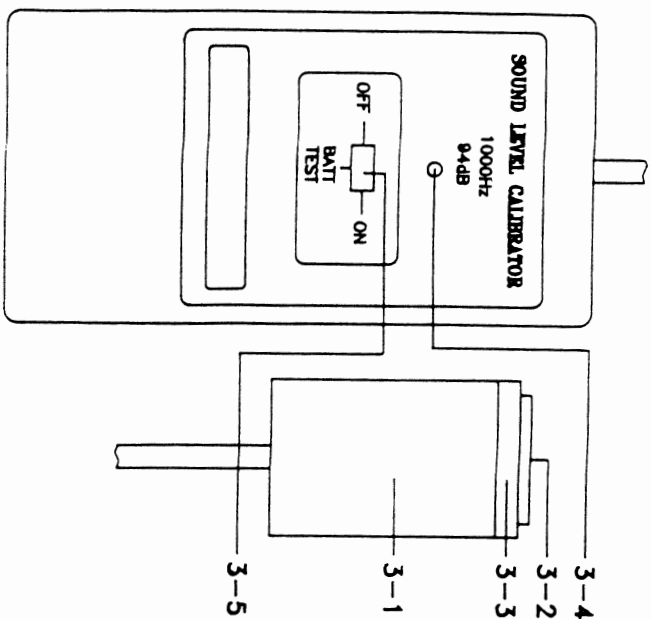
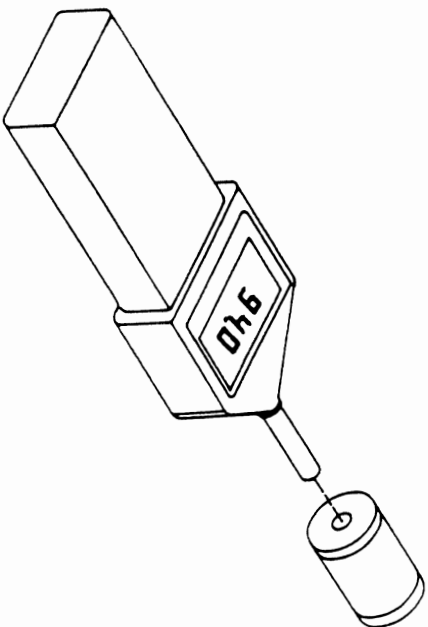

Fig. 1
Fig. 2
- (1) Slide the "OFF/BATT TEST/ON Switch"(3-5, Fig. 1) to the "BATT TEST" position.
- (2) If the "Battery Indicator"(3-4, Fig. 1) lights up, then the battery voltage is normal.
- (3) If the "Battery Indicator" does not light up, then should replace the batteries.
- (1) If the calibrated "SOUND LEVEL METER" used the 0.5" microphone, then on the "Couple Section" (3-2, Fig. 1) should install the "0.5" Mic. Adapter" first.
- (2) Insert the microphone of calibrated "SOUND LEVEL" carefully all the way into the coupler section of the SC-940. (Refer to fig. 2)
- (3) Set the calibrated "SOUND LEVEL METER" to a range suitable for measuring "94 dB"
- (4) Set the "OFF/BATT TEST/ON Switch" (3-5, Fig. 1) to "ON" position.
- (4) Adjust the calibration VR (knob) of the calibrated "SOUND LEVEL METER" until that the display reach to 94.0 dB exactly or the meter pointer points to the "CAL" mark. (Refer Fig. 2)